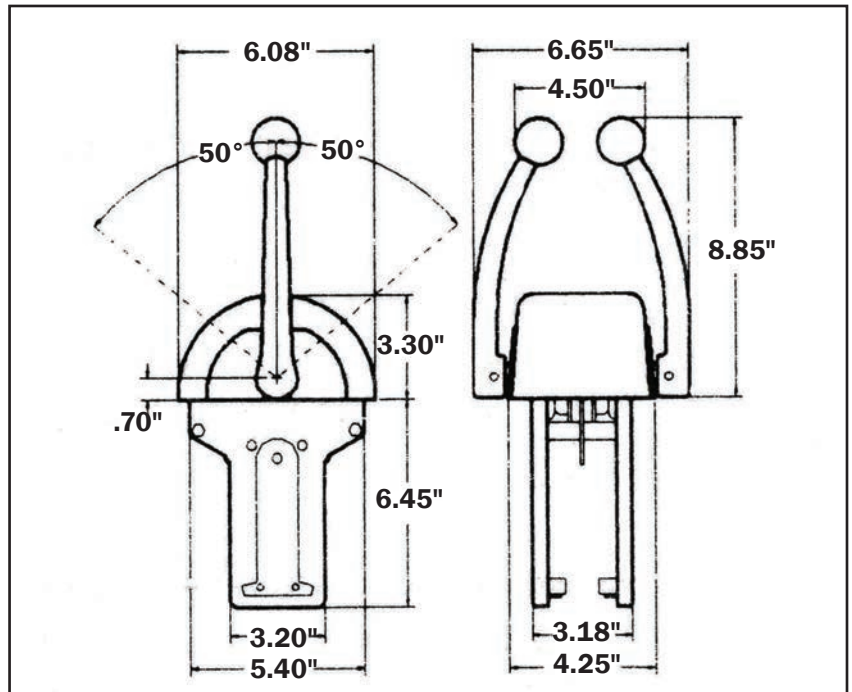

Figure 1.
STEP 1. Select a location which allows convenience of operation and full travel of control handles in both directions. Ensure that handles clear windshield, steering wheel and other equipment on the dash-board. Make sure that there is sufficient clearance under the mounting surface for the control body and cable routing. See Figure 1.
STEP 6. Install handles onto shafts. Check that the control moves freely from full forward to full reverse positions and ensure that the handle travel is equal in both forward and reverse directions. Refer to Figure 1. Secure in place using screw (11). If handle friction is desired, assemble friction spring (20) and set screw (12).